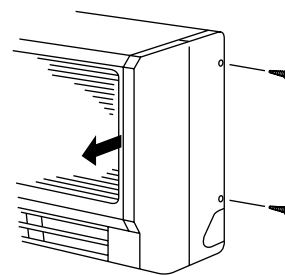

Fig. 3-38
- (a) Remove the 2 screws and slide out the side cover. (Fig. 3-38)
- (a) Remove the 2 screws and take off the side cover. (Fig. 3-38)